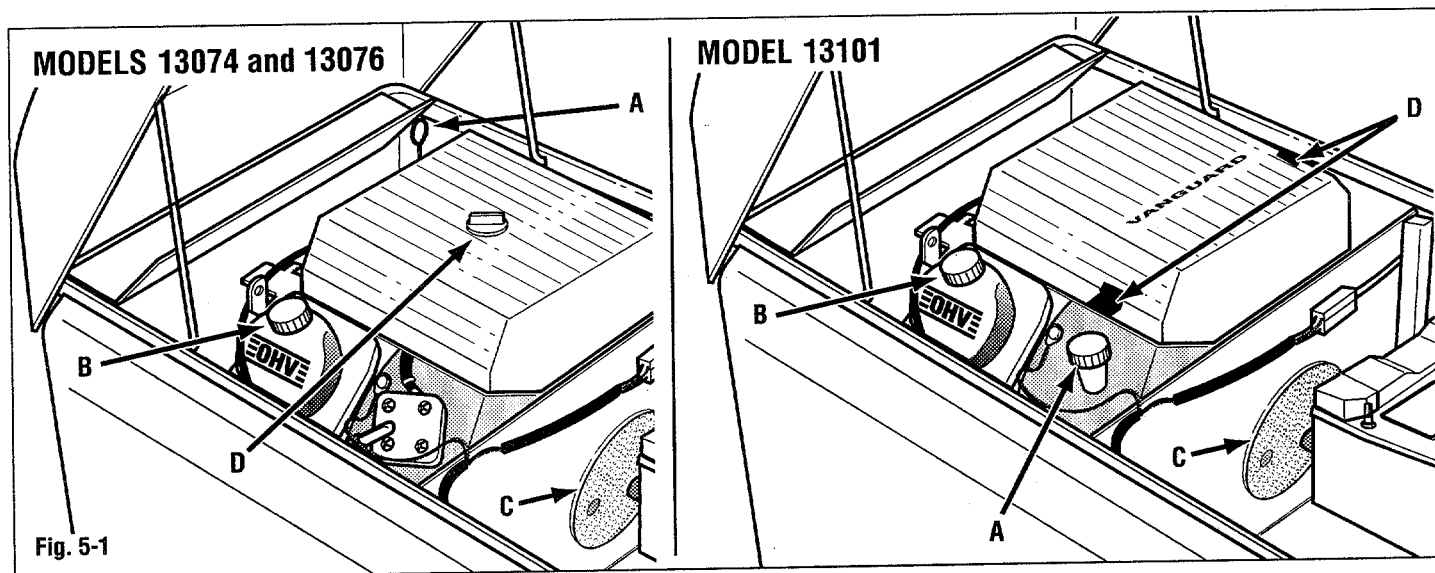

Fig. 5-1
Refer to your specific model in Figure 5-1.
Remove dipstick (A, Fig. 5-1). Wipe oil from dipstick with a clean cloth. Insert dipstick back into place. Remove dipstick and check oil level. Keep level between the ("F" Full) and ("L" Add) marks on the dipstick. If level is low, fill engine crankcase through fill opening (B).
STOP ENGINE BEFORE CLEANING FLYWHEEL! Check engine flywheel screen (C, Fig. 5-1) for debris. Clean regularly.